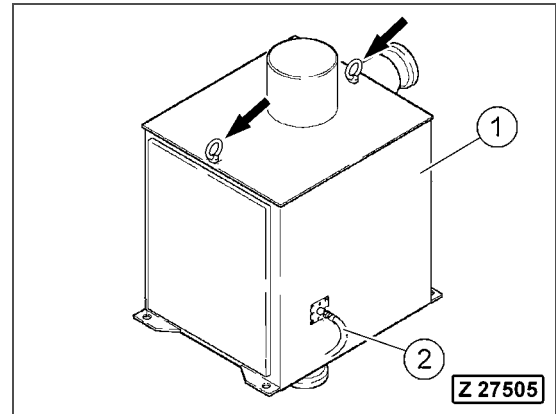

Fig. 3-217
8. Open the slip ring unit (Fig. 3-217, Pos. 1) and disconnect the high voltage power supply cables and wiring leading into the slip ring unit.
9. If equipped, disconnect the extinguishing agent hose (Fig. 3-217, Pos. 2) of the fire suppression system from the slip ring unit.